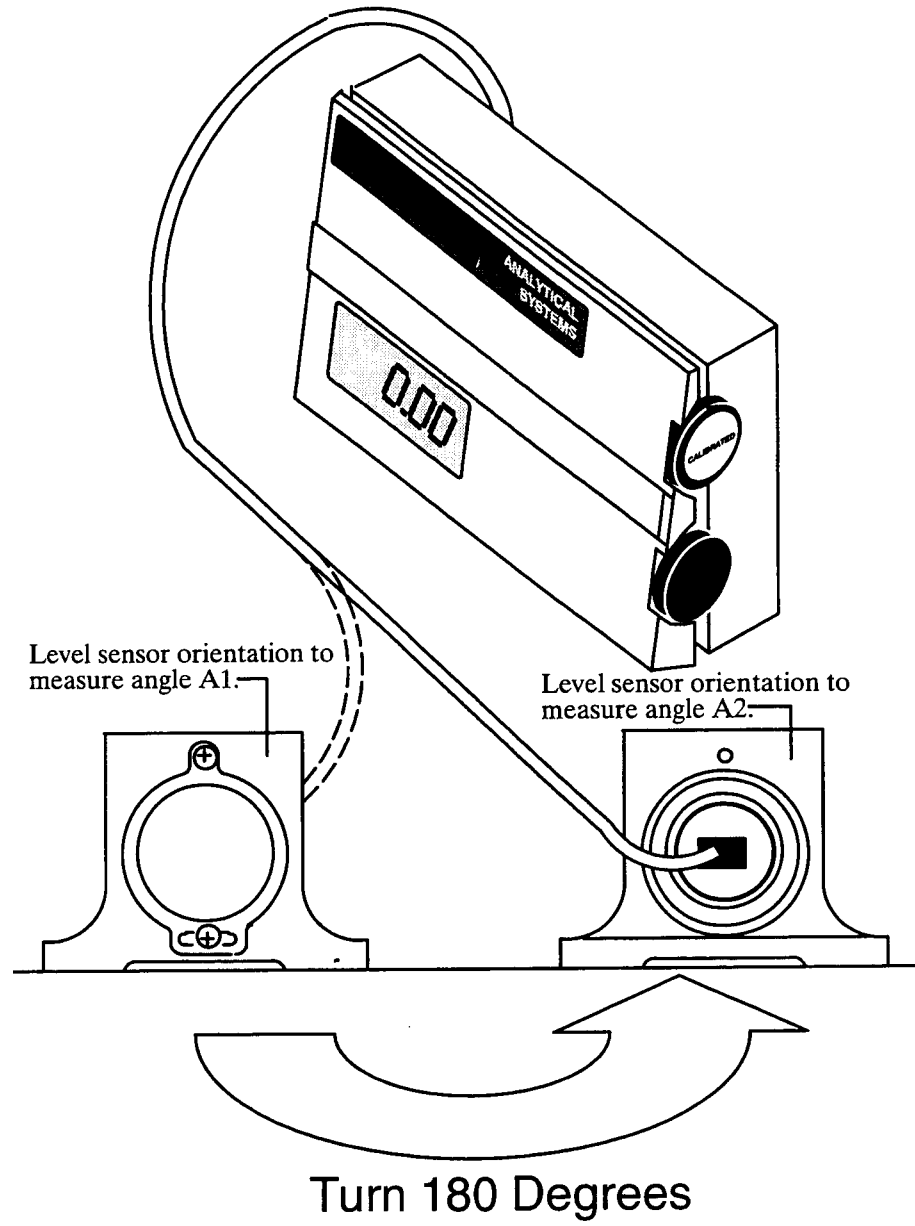

Figure IV-1. Calibrating the digital level
1. Place the level sensor on the flat surface and record the angle, including the sign (i.e., positive or negative). Call this angle A1. (See figure IV-1.)
2. Rotate the level sensor 180 degrees (see figure IV-1) and replace the level sensor on the flat surface. *Be sure to place it in exactly the same location as it was for the initial reading taken in step 1.* Record this angle and call it A2.